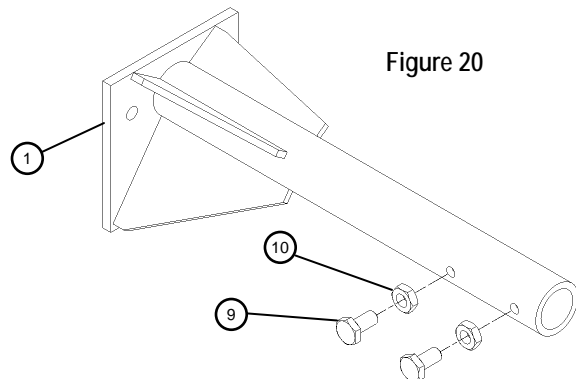

Figure 20
10. See Figure 20. Thread 1/4-20 x 1/2" hex bolt (9) and 1/4-20 hex jam nut into Tube Mount (1).
11. See Figures 20. Repeat for all Tube Mounts (1).